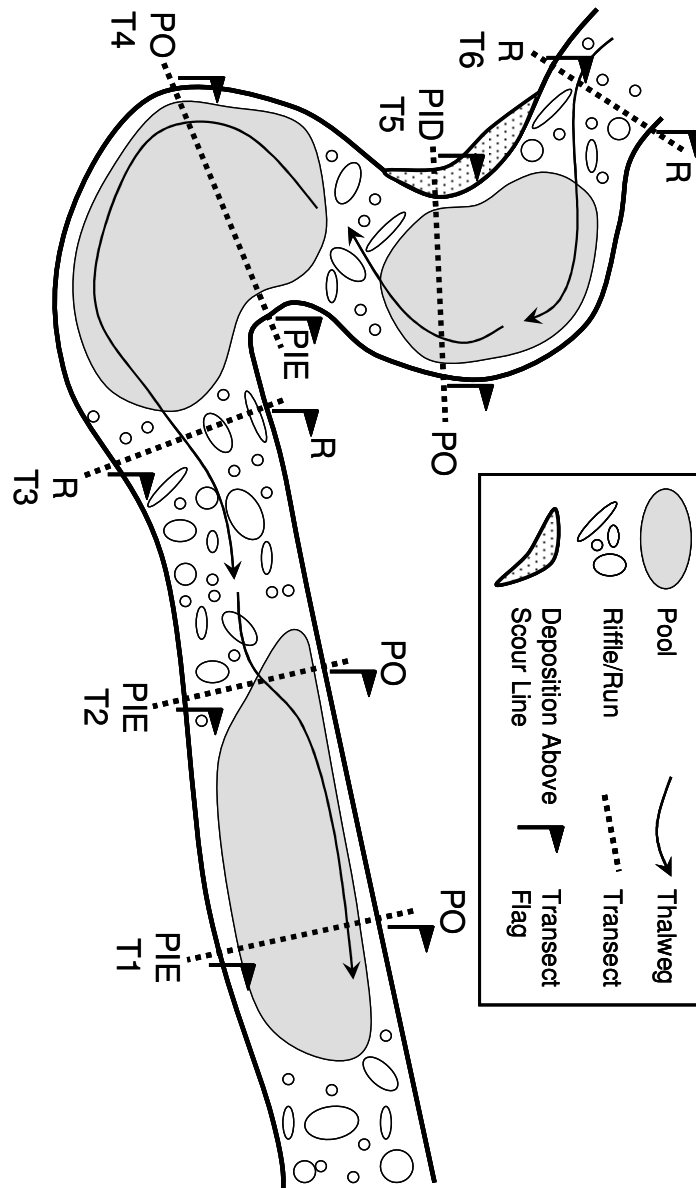

Figure 35. Example of stream showing the four classification categories for bank type.
3. If the pool occurs in a straight stretch of channel, measure from the thalweg to the bankfull elevation on both banks. The bank closer to the thalweg is "pool outside" while the bank further from the thalweg is "pool inside" (Transects 1 & 2 in Figure 35).
4. Streambanks on the inside of pools are further delineated as erosional or depositional. Erosional banks have no deposition or the deposition is below the SL and classified as "PIE" for pool inside, erosional (Transects 1, 2 & 4 in Figure 35). Depositional banks have deposits that extend above the scour line and are classified as "PID" for pool inside, depositional (Transect 5 in Figure 35).
6. In situations near a pool head or tail or side channel, one bank may be within the pool and one in a riffle / run; use the pool classification for both (Transect 2 in Figure 35). For example, you will never have one bank be 'PO' and the other 'R' for example.